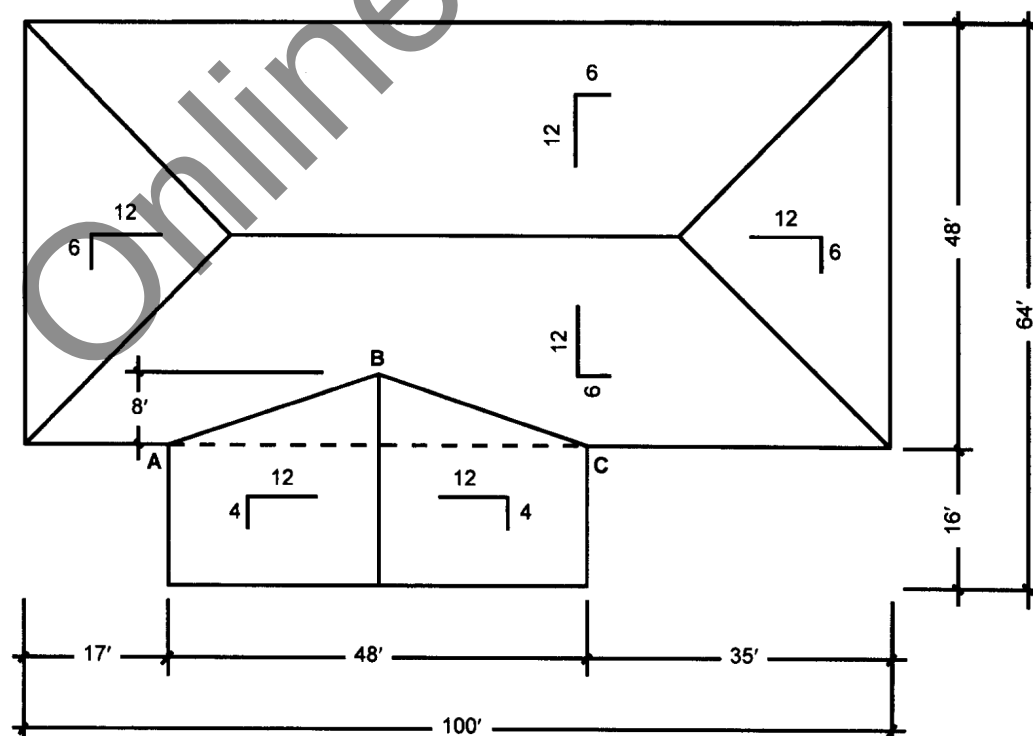

Figure 1-24 Sectioning the roof plan
Step 1: Section off the drawing, as shown in Figure 1-24, to isolate the two different slopes. Begin with the large 6 in 12 section. Notice you must deduct the triangle formed by the section of 4 in 12 roof (labeled ABC on the drawing). Multiply the length by the width and subtract the area of the triangle: